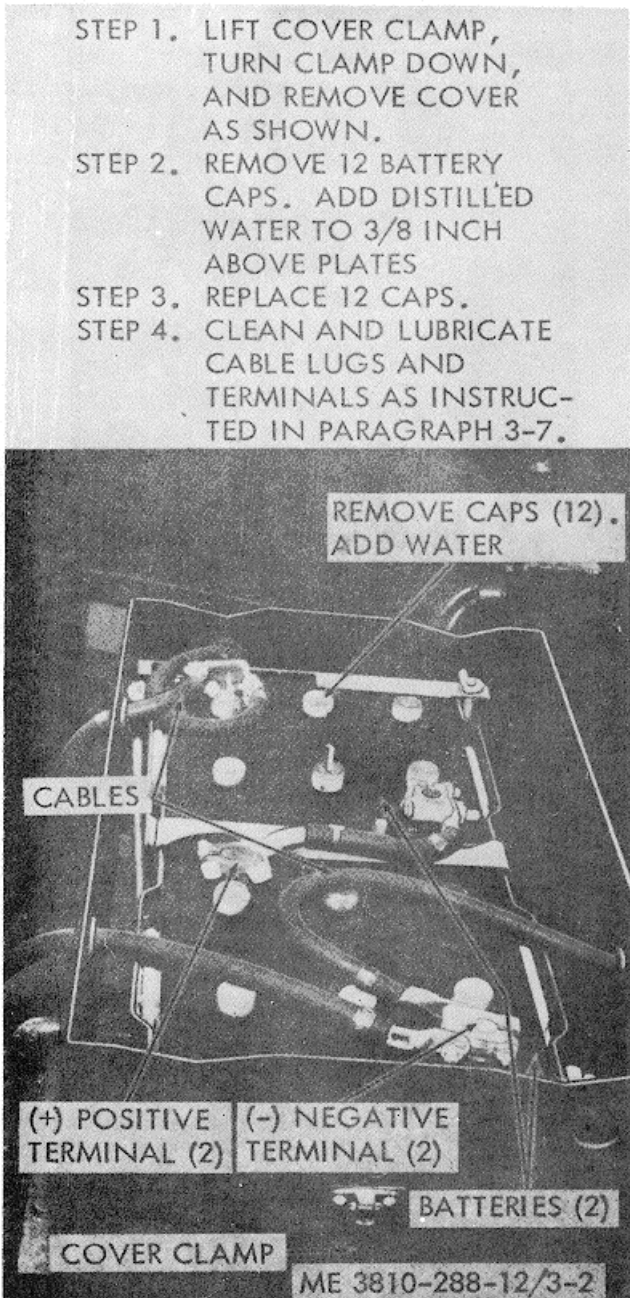

Figure 3-2. Battery inspection and service.
a. *Inspect.* Refer to Figure 3-2, and inspect batteries for cracks, leaks, or other damage. Inspect cables for frayed insulation, broken wires, bent or broken lugs, or corroded terminal lugs. Clean terminals and cable lugs of all corrosion and lubricate terminals and lugs with a light coating of grease, type GAA, as listed in the lubrication chart. Inspect the battery box for cracks, breaks, corrosion, or other damage.